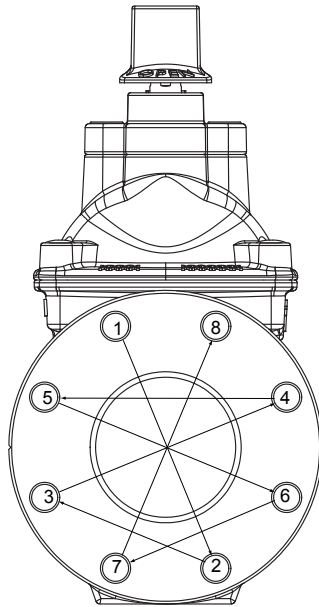

Fig. 2
5. Tighten the bolts and nuts in the crossover method shown in Fig. 2, to load the pipe and valve evenly and prevent stress on the joints.